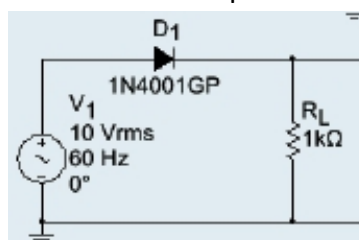

Figure-37
Figure-37 shows a half-wave rectifier that you can build on the lab bench or on a computer screen with Multisim. An oscilloscope is across the 1 kΩ. Set the oscilloscope's vertical input coupling switch or setting to dc. This will show us the half-wave load voltage. Also, a multimeter is across the 1 kΩ to read the dc load voltage. Calculate the theoretical values of peak load voltage and the dc load voltage. Then, compare these values to the readings on the oscilloscope and the multimeter.
- Figure-37 shows an ac source of 10 V and 60 Hz. Schematic diagrams usually show ac source voltages as effective or rms values. Recall that the effective value is the value of a dc voltage that produces the same heating effect as the ac voltage.
- Therefore, the peak source voltage in Figure-37 is:
Using Figure-37, change the ac source voltage to **15 V**. Calculate the second approximation dc load voltage V_{dc} .